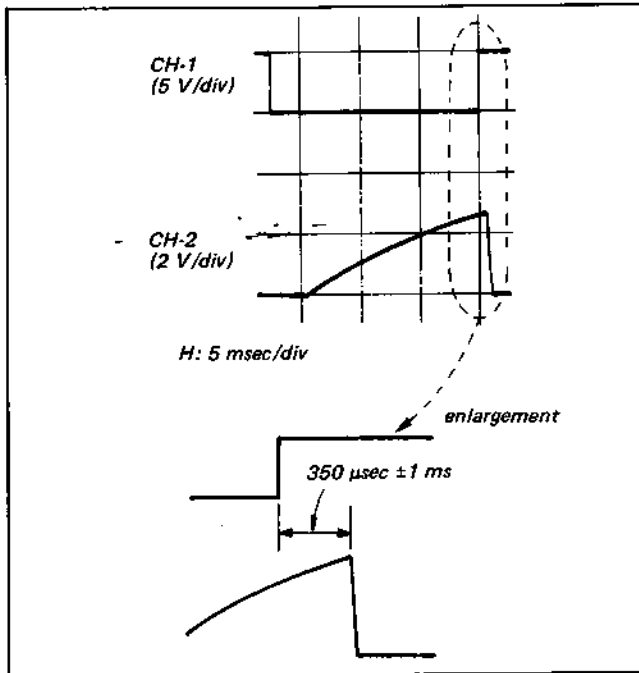

Fig. 5-19. Edit tracking center adjustment
- (1) Set the TRACKING knob to the center click position. (See Fig. 5-19)